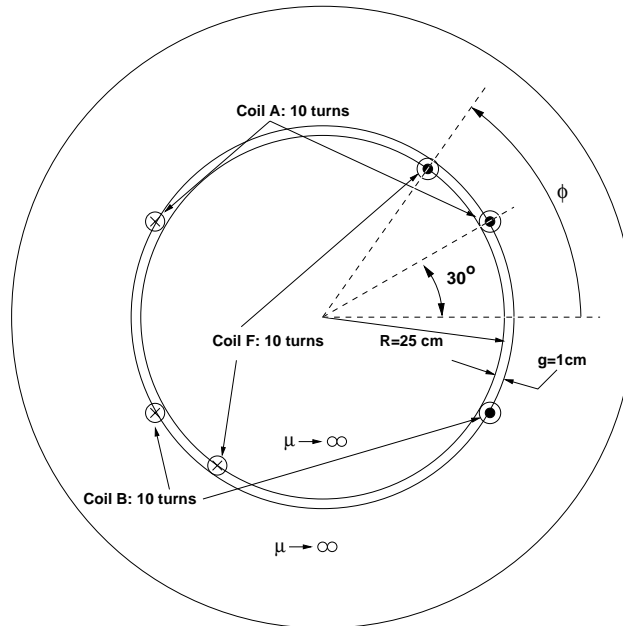

Figure 2: Axial View
**Problem 2:** Figure 2 shows an axial view of a skeletal kind of machine. The stator has two coils, each with 10 turns of wire. You should consider all coils to be concentrated. Coil A has sides at 30 and 150 degrees. Coil B has sides at -30 and -150 degrees. The rotor has a single, full-pitched coil with ten turns. The rotor is round and has a diameter of 1/2 meter and a length of 1 meter. The air-gap dimension is 1 cm. In this problem we are seeking dimensioned sketches and do *not* want any trig functions. Both amplitude and shape of the waveforms count. Use the blank forms provided on the last page.
3. Now the two stator coils are connected in series, but the lower coil (B) is *reversed*. With the rotor excited and turning as in Part 1, what voltage is induced in the stator coils? Make a dimensioned sketch.